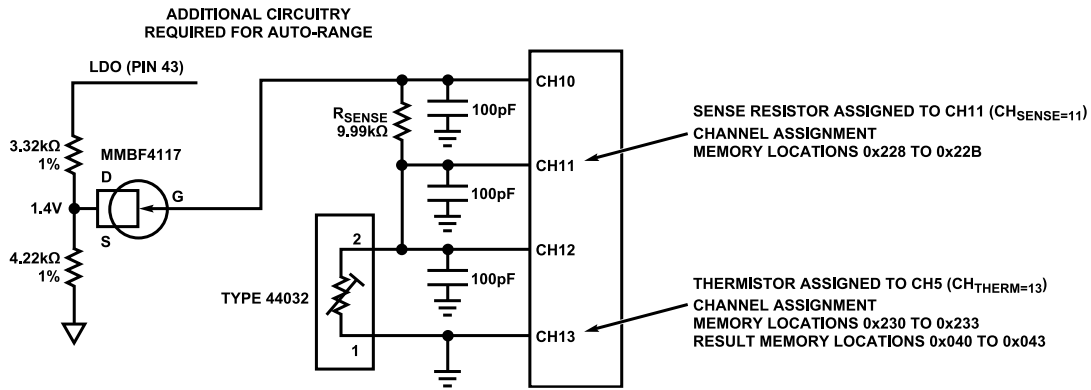

Figure 54. Differential Thermistor Example
*Additional circuitry required for auto-range; see Figure 54.
Note 1: Additional circuitry required for thermistors using auto-range. See Figure 54.